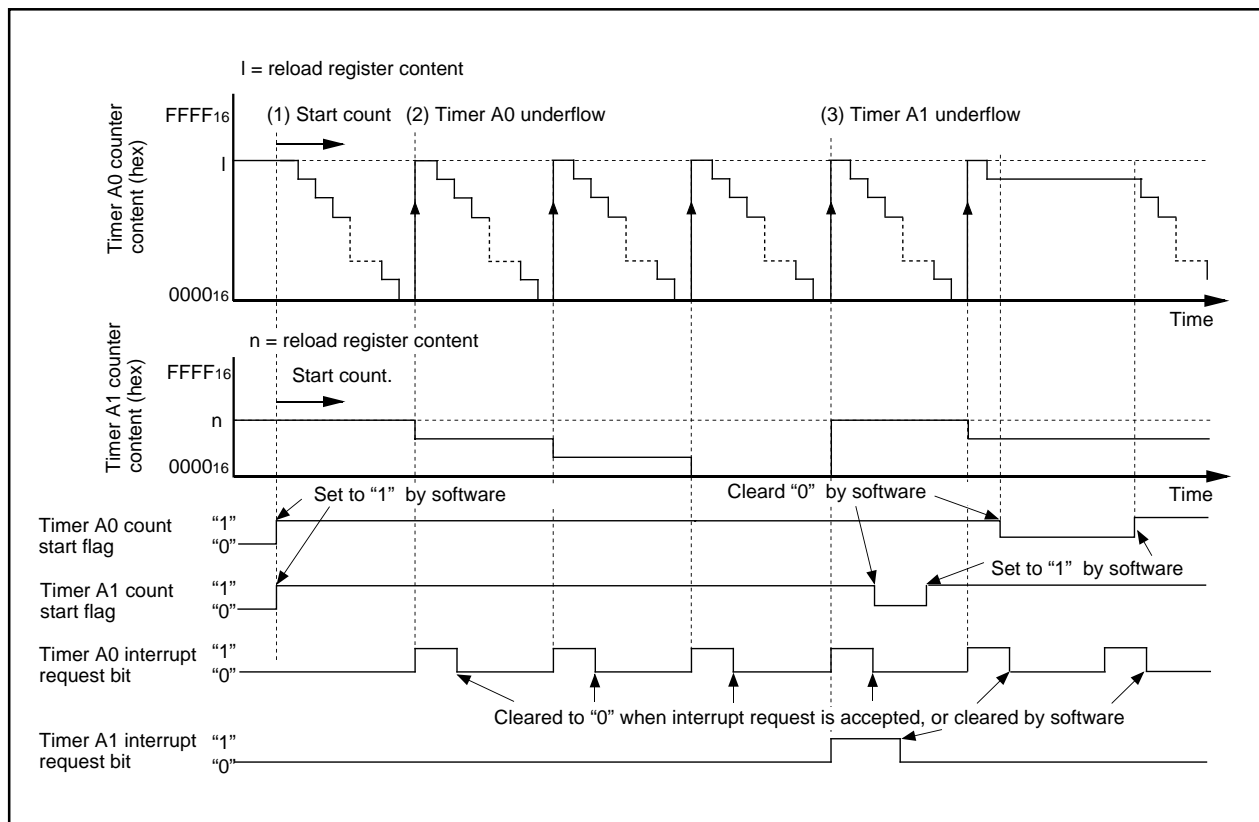

Figure 3.1.1. Operation timing of long-period timers
**Overview** In this process, Timer A0 and Timer A1 are connected to make a 16-bit timer with a 16-bit prescaler. Figure 3.1.1 shows the operation timing, Figure 3.1.2 shows the connection diagram, and Figures 3.1.3 and 3.1.4 show the set-up procedure.